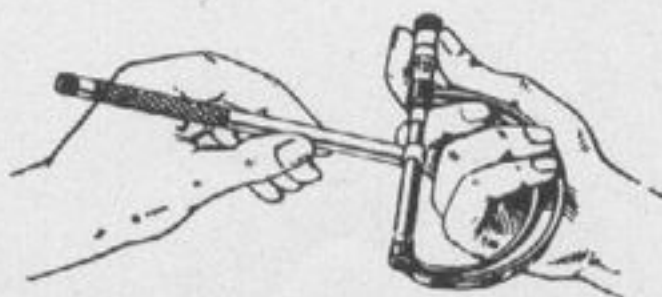

Figure 59—Checking Setting of Telescope Gage
(7) Check this setting with micrometers as shown in figure 59.